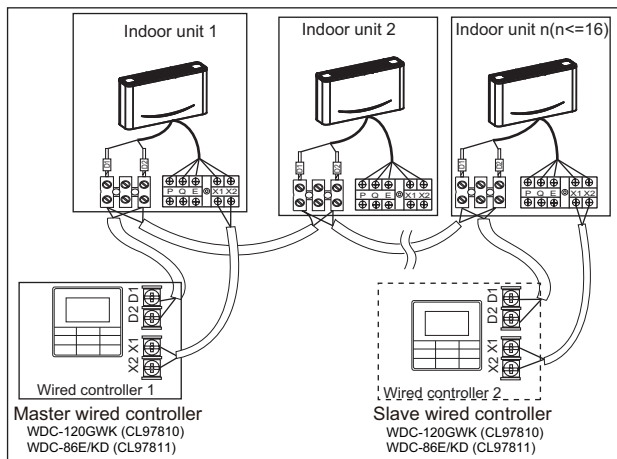

Figure 6.8
- ◆ Use 1 wired controller to control multiple indoor units or 2 wired controllers (one master and one slave controller) to control multiple indoor units (see Figure 6.8);